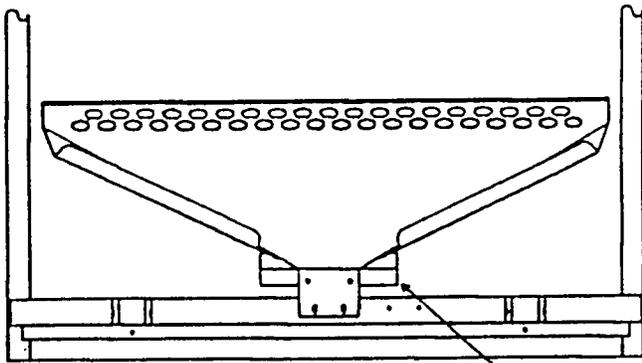

Figure 1
4. Secure with two (2) 900,301,65x.x1 Phil pan screws #8-18x½.
5. See figures 1 and 2 below.